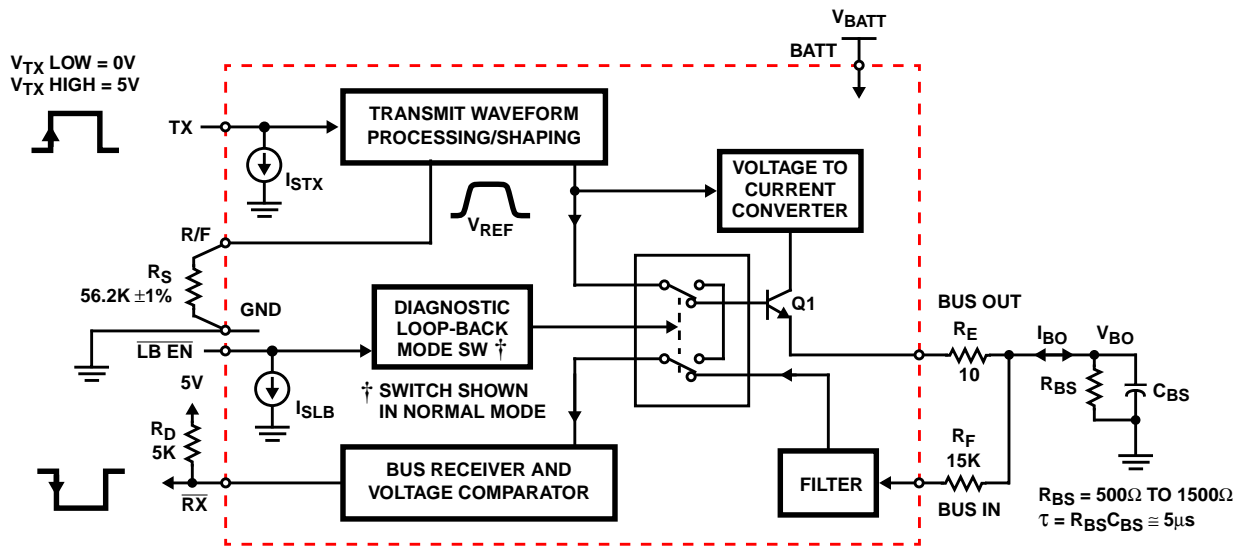

FIGURE 4. ELECTRICAL SPECIFICATION TEST CIRCUIT
12. Unless otherwise noted, all Electrical Specification test conditions are as shown in Figure 4.